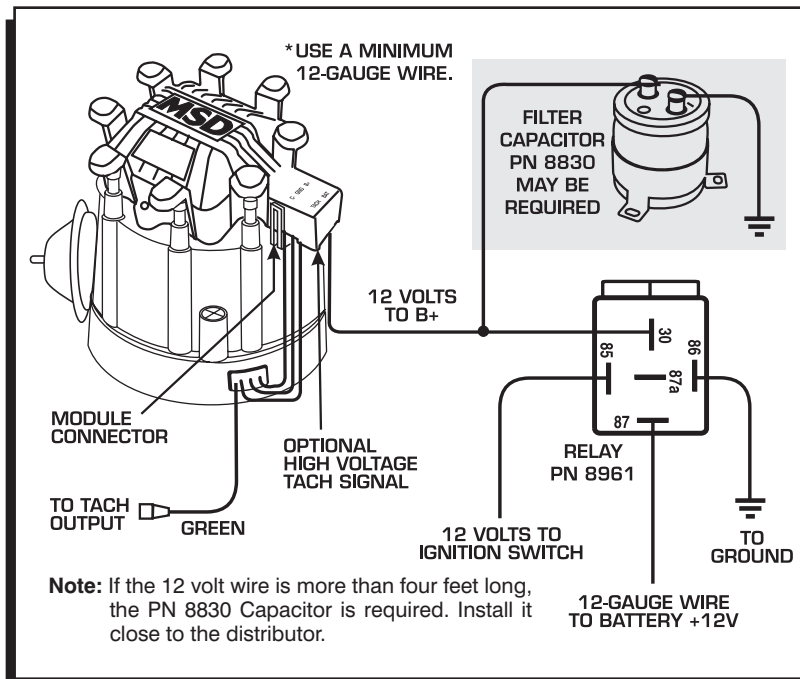

Figure 3 Wiring the Extreme HEI Module.
5. Connect the HEI Module harness to the Distributor Cap and wire the supplied relay as shown in Figure 3.